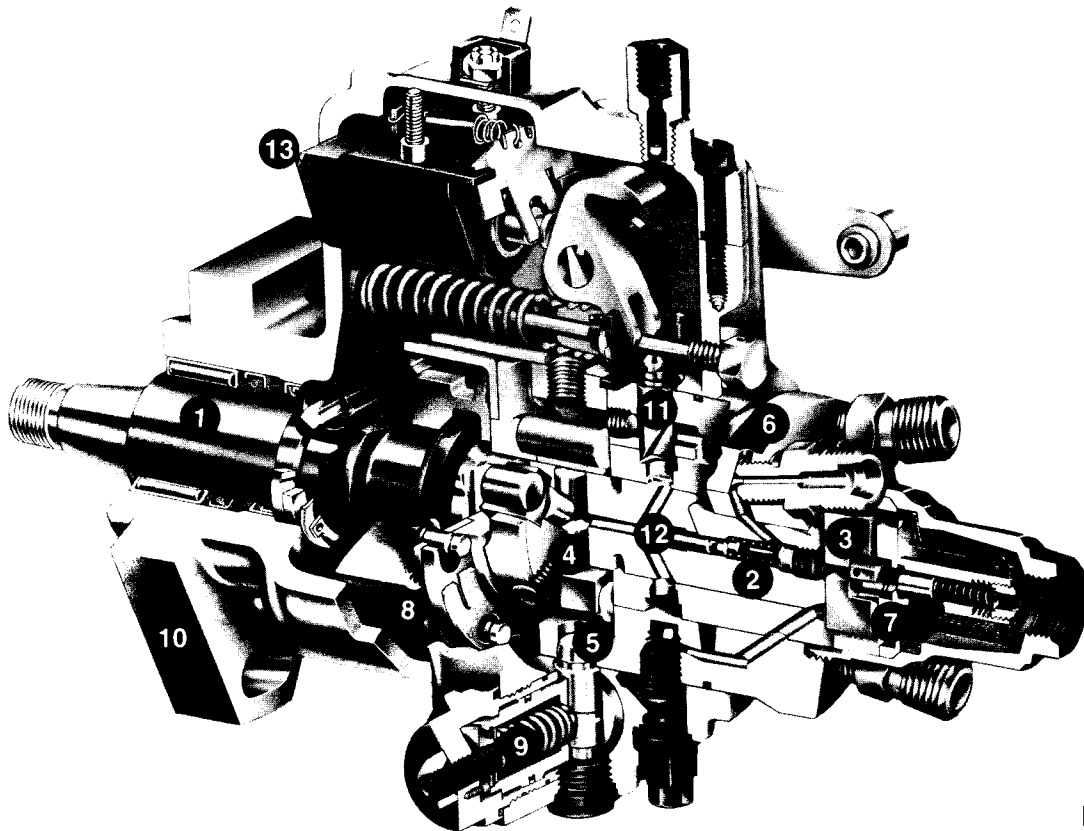

Fig. 1.1
A. Components And Functions (Fig 1.1)
The main components of the Stanadyne DB4 pump are pictured above in Figure 1.1. They include:
With reference to Fig. 1.1, the drive shaft engages the distributor rotor in the hydraulic head.